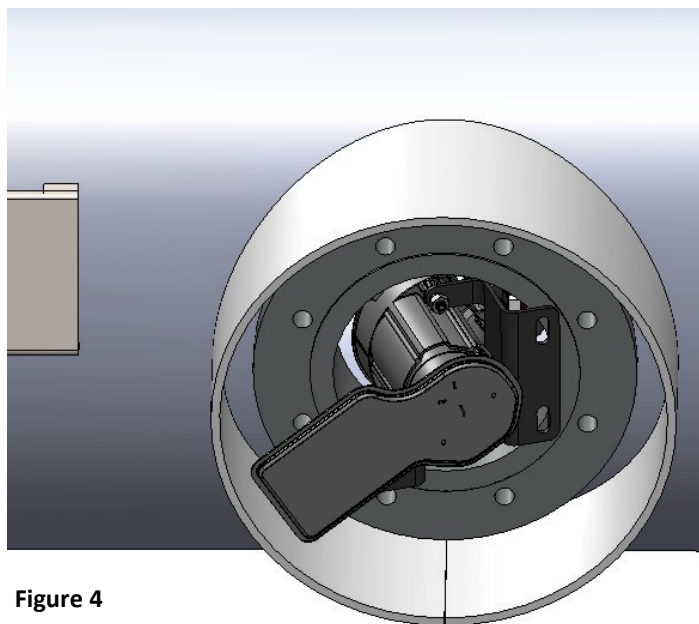

Figure 4
6. Remove fuel pump from LPI® Fuel Tank. **Note: Holding the bottom of the fuel pump, guide the filter sock through the opening first. Then pull the pump straight out. Caution: Do not use excess force removing the fuel pump.** (Figure 4 & 5)